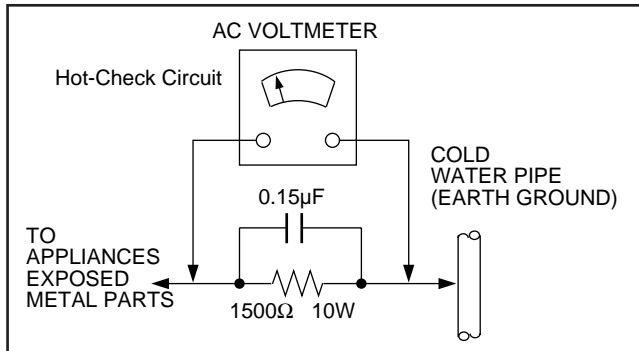

Figure1
LEAKAGE CURRENT HOT CHECK (See Figure 1)
2. Connect a 1.5k Ω , 10W resistor, in parallel with a 0.15 μ F capacitor, between each exposed metallic part on the set and a good earth ground such as a water pipe, as shown in Figure1.